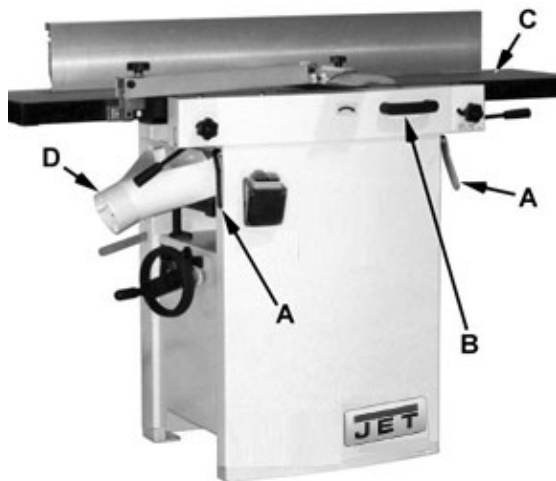

Figure 2
To change the machine configuration from jointer to planer (refer to Figure 2):
1. Pull the *release knob* (F) and reposition the *dust chute* (D, G) to the left. It should be positioned as shown in D, Fig. 2.
2. Release the *latch* (E) and bring the table forward using the *tilt handle* (B). It should be positioned as shown in C, Fig. 2.
3. Lock the *table* (C) by pushing the *lock handles* (A) in toward the machine and rotating down (away from the operator).